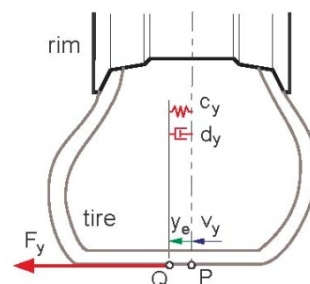
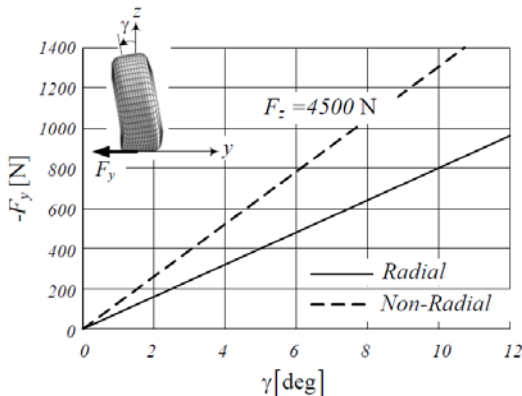

Fig. 6. Lateral tire deflection
Fig. 7. Cambered tire
The lateral force F_y acting in the contact patch deflects the tire in lateral direction, the first order approximation takes the lateral tire deflection y_e into account (Fig. 6.).
In relation (1) v_y describes the sliding velocity of the contact point in lateral direction. y_e is greatly influenced by tire sidewall stiffness in the way that a stiffer tire sidewall will have a lower y_e . The amount of Tire lateral deflection is critical in Tire Sway because it will induce asymmetrical sidewall compression. In Figure 6 left sidewall will compress more than right sidewall and will increase the Tipping Torque T_x (Fig. 5). Camber angle γ is the tilting angle of tire about the longitudinal x-axis. Camber angle generates a lateral force F_y called camber thrust or camber force. Figure 7 illustrates a front view of a cambered tire and the generated camber force F_y . Camber angle is assumed positive $\gamma > 0$, when it is in the positive direction of the x-axis, measured from the z-axis to the tire.